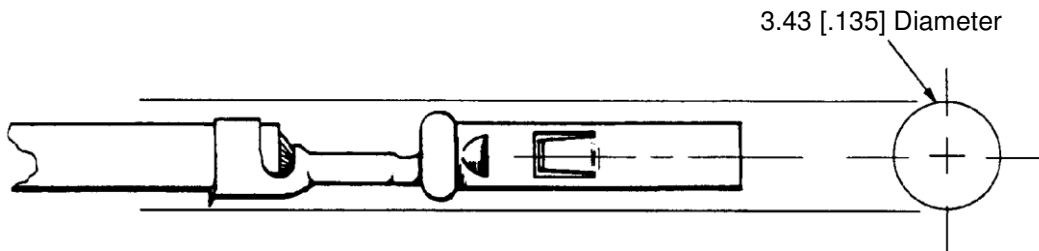

Figure 5
1. Crimped insulation barrel shall fall into an area defined by a 3.43 mm [.135 in.] diameter circle whose center is the centerline of the contact as shown in Figure 5.